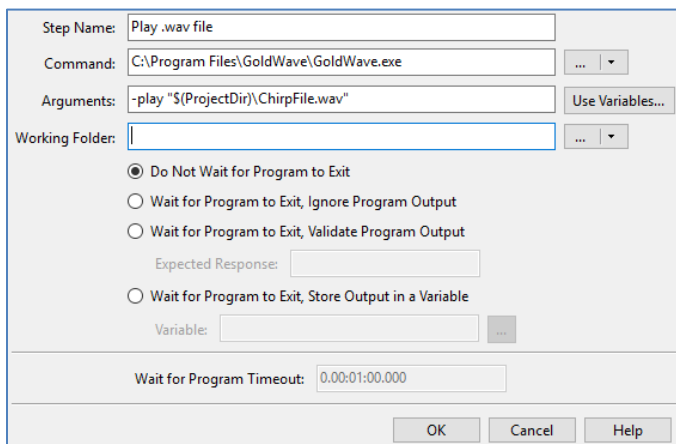

Figure 27. A sequence step to play the .wav file containing the Acoustic Response stimulus using GoldWave.
- Sequence steps to play the generator waveform from the PC using GoldWave (Figure 27). The last -play step in each measurement has a -close argument, which closes GoldWave.